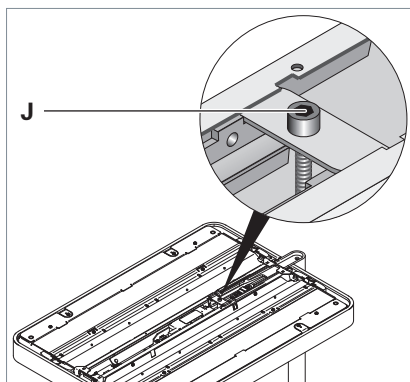

Fig. 5: Adjusting the light head.
- Rotate the adjusting screw **J** until the light head is in horizontal position, see Fig. 5.